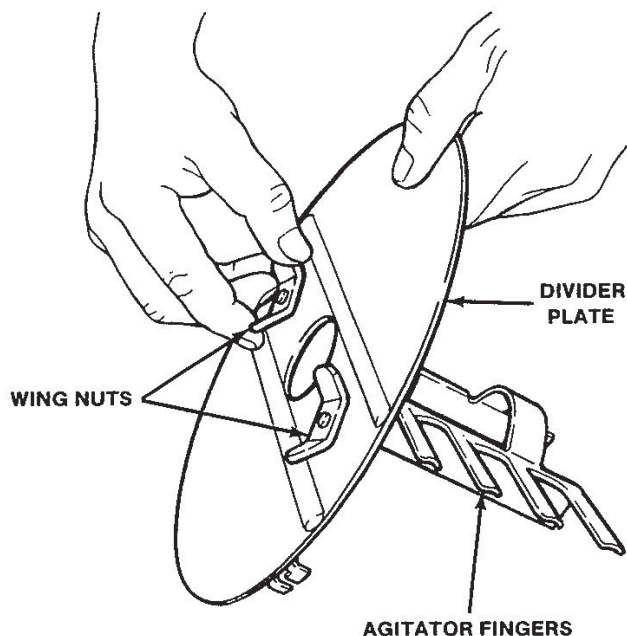

Figure 25. Removing Divider Plate from Agitator Fingers
- Unscrew the divider plate from the agitator fingers and remove (Fig. 25).